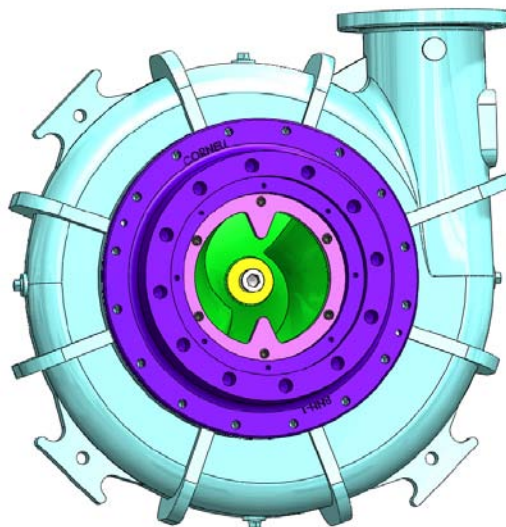

Figure 6. Installed Rotating Subassembly on Volute and Suction Cover
Install volute (2) and suction cover (1) (if applicable) on rotating assembly *Figure 6*.